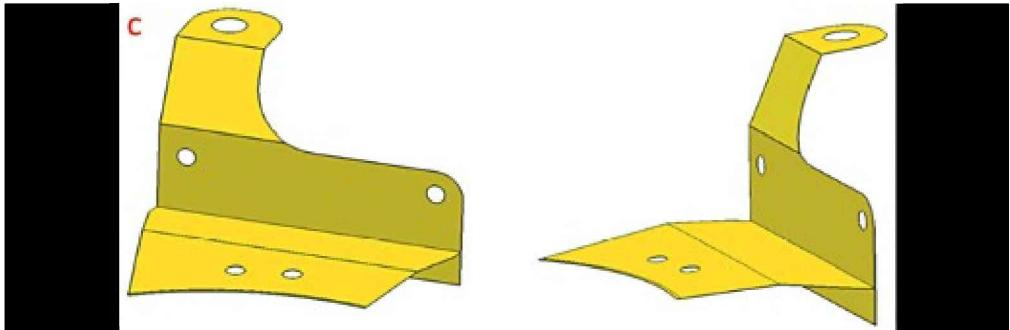

Figure 2.22. Creating midsurfaces:
Click ***Midsurface by Face Pairs*** on the **Midsurface** toolbar. In the ***Midsurface by Face Pairs*** dialog box (Figure 2.22), do the following:
- Under *Display Options* select *Hide Solid Body Upon Apply*. Note that the midsurface in the chamfer region (Figure 2.22, A) is not
complete. To remedy this, add the faces that form the chamfer to *Automatic Pair (Standard)* face pair (2). Click this pair under *Face Pair List* to automatically change the strategy to *Manual*. Then add a corresponding face to each side (faces of side 1, faces of side 2) (Figure 2.22, B).
- Click **OK**. The result is shown in Figure 2.22, B.